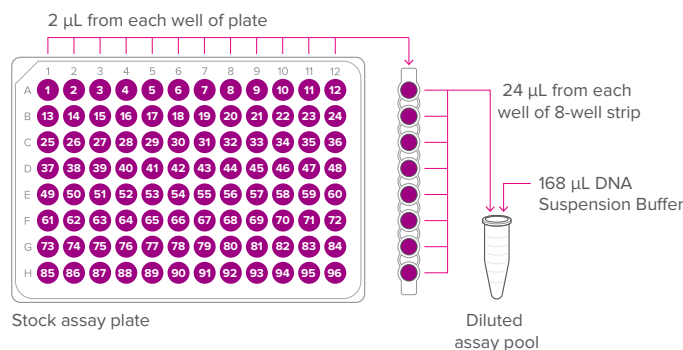

Figure 1. Example dilution of a 96-assay pool
- 2 In a DNA-free hood, dilute each pool of stock assays with DNA Suspension Buffer as calculated in Table 1. An example using the recommended volume of 2  $\mu$ L for each assay from a single 96-assay pool is shown in Figure 1.